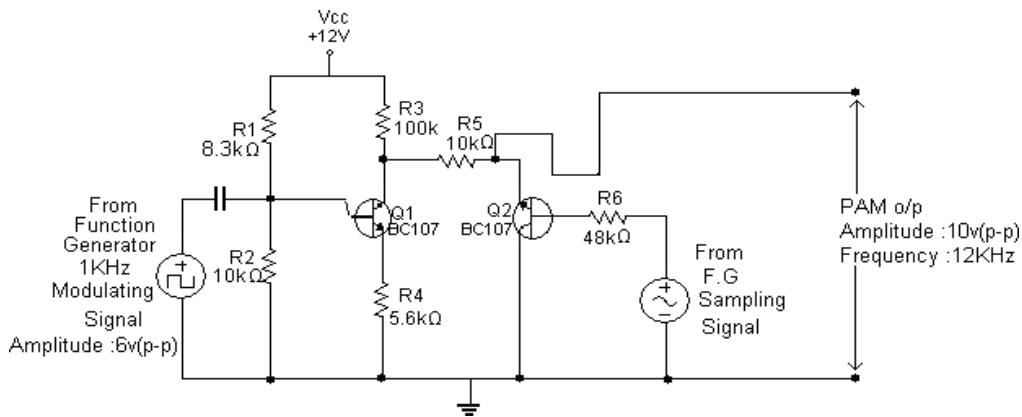

Fig: 6.1 Pulse Amplitude Modulation Circuit
1. Connect the circuit as per the circuit diagram shown in the fig 6.1